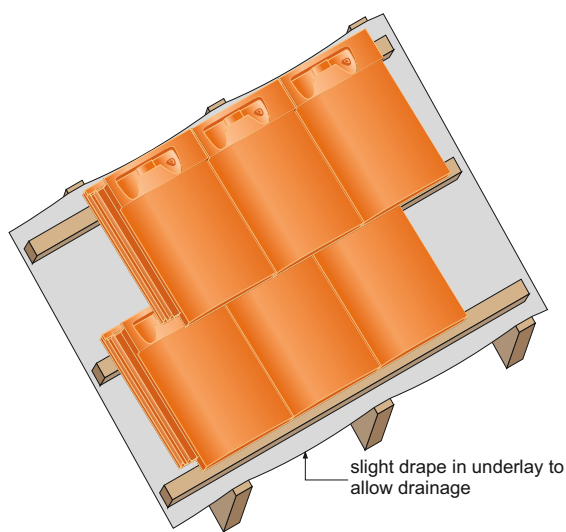
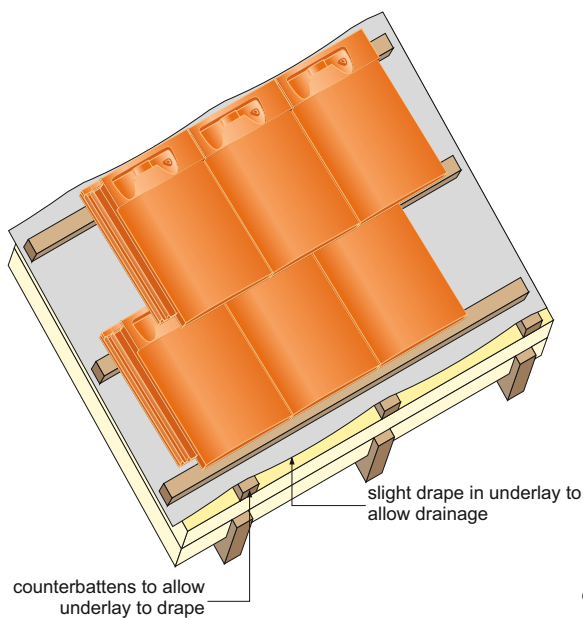
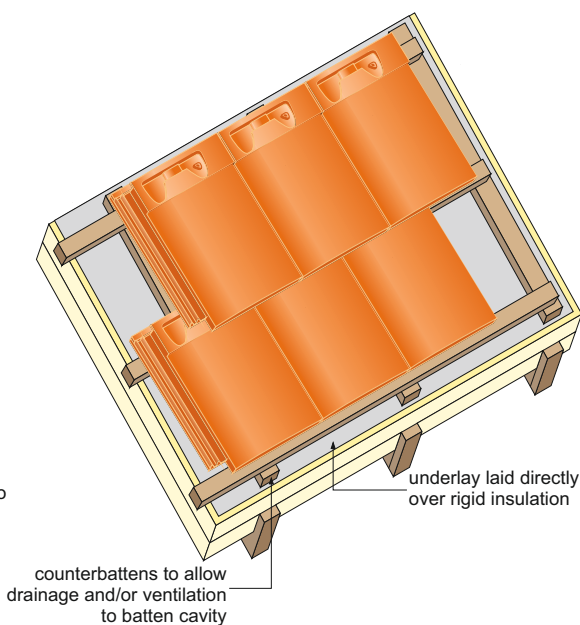

Fig 1: Cold roof, Koramic VPM Classic & Super laid directly over rafters
Fig 3: Warm roof, Koramic VPM Classic & Super laid over counterbattens
Fig 4: Warm roof, Koramic VPM Classic & Super laid directly over insulation
- Sandtoft Koramic VPM Classic & Super underlays may be used for cold roofs (see Figs 1 and 2) and with ventilated or unventilated warm roofs with insulation installed in-line with the rafters (see Figs 3 and 4).
If the ceiling is 'well sealed', as defined in BS 5250, condensation can be controlled by the use of Koramic VPM Classic & Super with no additional ventilation. Koramic VPM Classic & Super can be laid draped (see Fig 3) or fully supported on insulation (see Fig 4). To ensure the integrity of a well sealed ceiling, a separate vapour control layer must also be used on the warm side of the insulation.